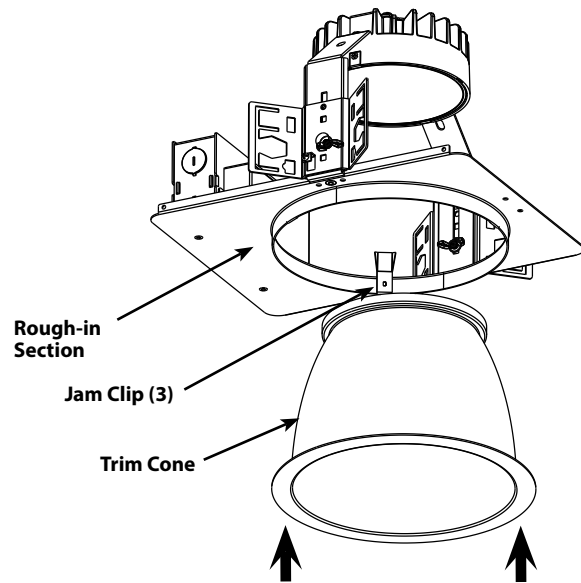

Fig: 3
Gently push **Trim Cone** in the **Rough-In Section** as shown in **Fig. 3**. **Jam Clips (3)** will hold the **Trim Cone** in place.